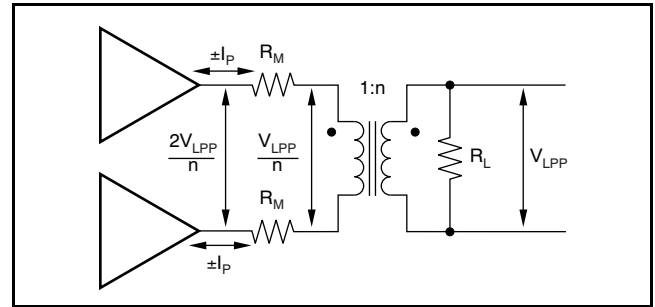

Figure 79. Driver Peak Output Model
The peak current is computed in Figure 79 by noting that the total load is  $4R_M$  and that the peak current is half of the peak-to-peak calculated using  $V_{LPP}$ .
The two output stages used to drive the load of Figure 79 can be seen as an H-Bridge in Figure 81. The average current drawn from the supply into this H-Bridge and load is the peak current in the load given by Equation 6 divided by the crest factor (CF). This total power from the supply is then reduced by the power in  $R_T$  to leave the power dissipated internal to the drivers in the four output stage transistors. That power is simply the target line power used in Equation 7 plus the power lost in the matching elements ( $R_M$ ). In the examples here, a perfect match is targeted giving the same power in the matching elements as in the load. The output stage power is then set by Equation 10.